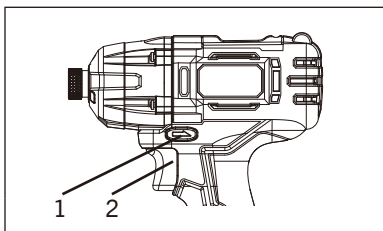

FIG. 5
The forward/reverse switch (1) is conveniently mounted above the trigger switch (2) (Fig. 5). To make the impact driver rotate clockwise for driving screws, push the forward/reverse switch to the left. To make the driver rotate counter-clockwise for removing screws, push the forward/reverse switch to the right
2. Set forward/reverse switch to “forward” (Fig. 5).
1. Press the forward/reverse button to the RIGHT for removing nuts (Fig. 5).